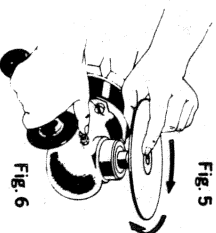

Fig. 6
- 4) With one hand, depress the spindle lock button and hold the button in. Grasp the pad and sanding disc with the other hand, and turn by hand to tighten the entire assembly (Fig. 6).
To remove pad and disc, turn pad and spindle in the direction shown in Fig. 6 to engage Spindle Lock Button, grasp the pad and disc and turn the pad and disc assembly in the opposite direction. **CAUTION:** Do not depress spindle lock button while unit is running.